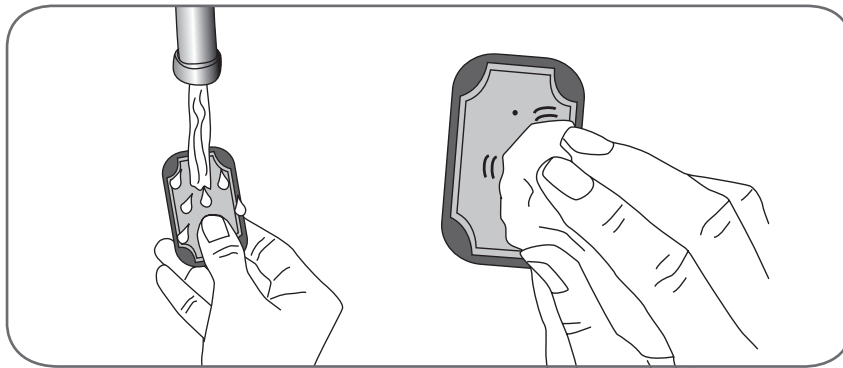

Figure 8-4: (Left) Wetting the Cloth Electrode (Right) Blotting the Cloth Electrode
3. Wet the cloth electrodes until they are saturated. See Figure 8-4.
4. Blot excess water from the cloth electrodes. See Figure 8-4.